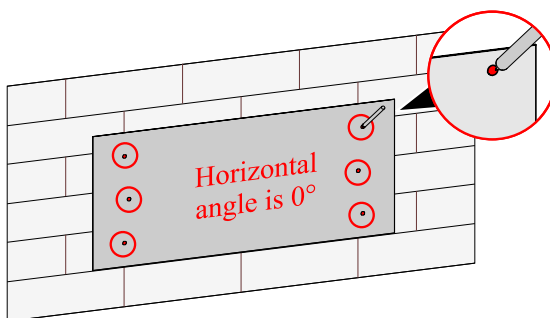

Figure3-18 Mark the installation holes
2. Fix the wall bracket a of bottom battery pack1, as shown in Figure3-18.